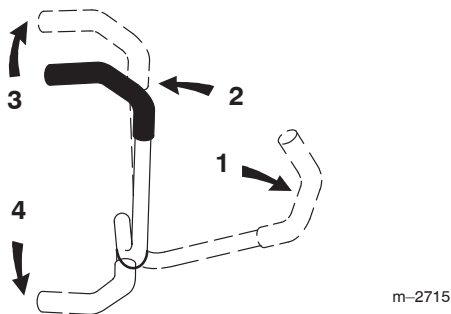

Figure 16
3. To go forward, slowly push the motion control levers forward (Fig. 16).
2. To go backward, slowly pull the motion control levers rearward (Fig. 16).
- To go straight, apply equal pressure to both motion control levers (Fig. 16).
- To turn, release the pressure on the motion control lever toward the direction you want to turn (Fig. 16).